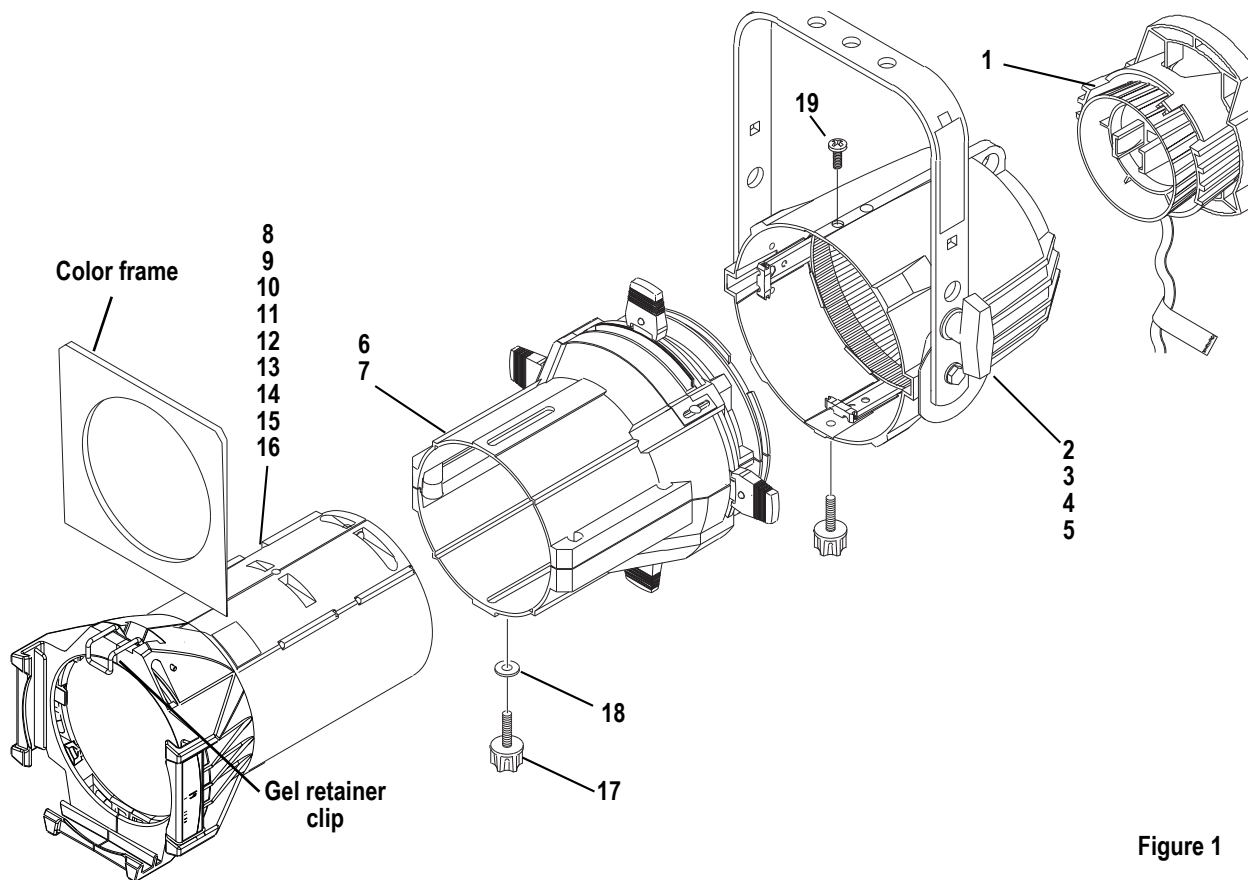

Figure 1
- Step 5: Insert lens tube assembly (8-16) fully into the front barrel assembly (6-7). Align the mounting hole with the slot and secure with knob (17). See Figure 1.
- Step 6: Install reflector housing (2-5) onto front barrel assembly (6-7) and align the two mounting holes. Secure with screw (19) on top, and knob (17) on bottom. Tighten both securely. See Figure 1.
- Step 7: Install the lamp socket assembly (1) to the reflector housing (2-5) and secure with brass knurled screw on rear of lamp socket assembly.